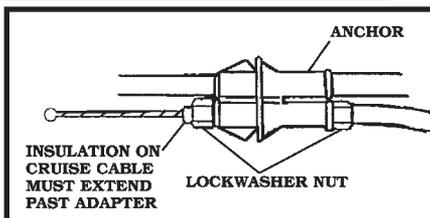

Figure 25
4. Insert the **CRUISE CABLE** through the blank anchor and thread the other **LOCKWASHER NUT** in place. *Figure 25*